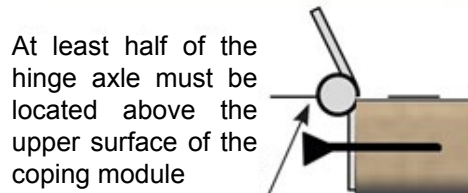

Figure 63 – Mounting the hinges
- to the cover pit slats, through the pool structure slats (see Figure 63) using 5 countersunk Torx screws 5 x 80 threaded over 50 mm (d); Avoid placing the screws close to the edge of the cover pit slats to avoid splitting the wood.